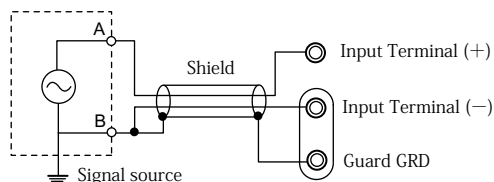
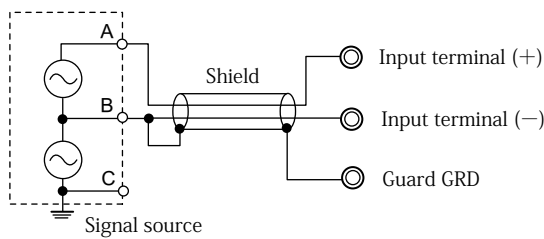
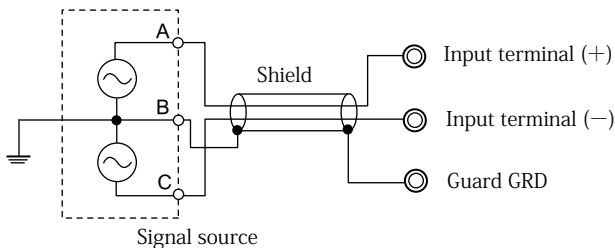

Fig. 2-9
Fig. 2-10
Fig. 2-11
Connection with the signal source is usually made with the shorting bar attached and so that the (–) and GRD terminals are connected to the signal source ground side, while the (+) terminal is connected to its output side. However, in some cases measurement conditions may require the following types of connection (Fig. 2-9, Fig. 2-10, Fig. 2-11).
- For regular signal sources, make the connections as shown in Fig. 2-9.
- For signal sources with bias voltages, connect the side with low impedance with respect to ground to the - terminal, and make the connections as shown in Fig. 2-10.
- For signal sources with differential outputs, make the connections as shown in Fig. 2-11. In this case also, the side with the low impedance with respect to ground is connected to the (-) terminal.